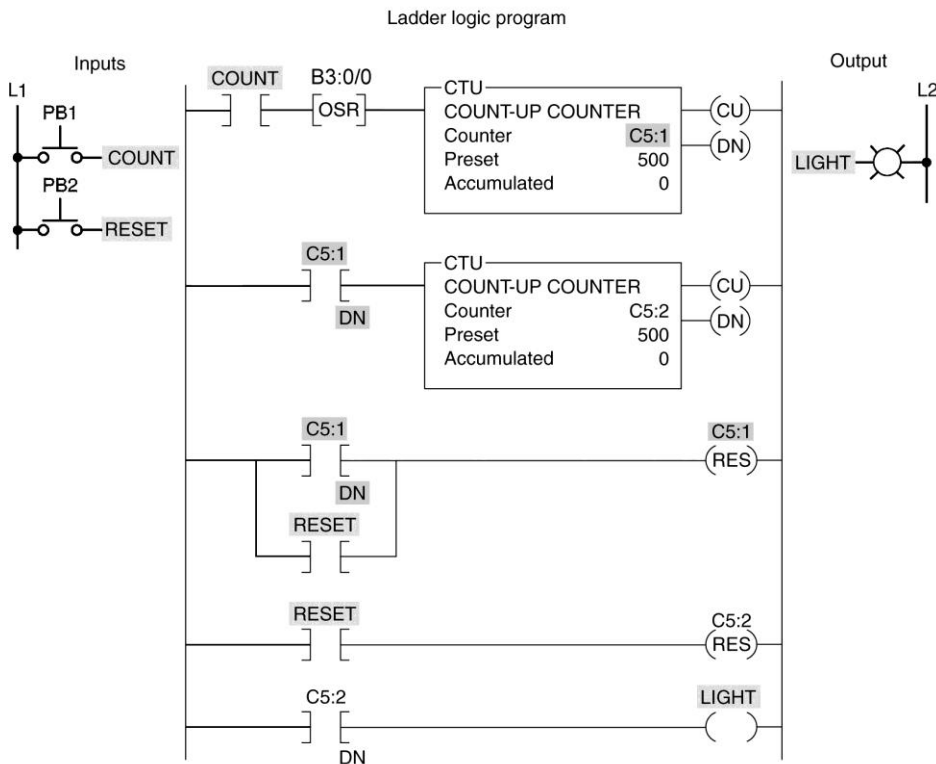

Figure 8-15 Cascading of counters for extremely large counts program for assignment 9.
9) The cascading of counters for extremely large counts program shown in Figure 8-15 is described in the text. Prepare an I/O connection diagram and ladder logic program for the process. Use addresses that apply to your PLC. Enter the program into the PLC, and prove its operation.